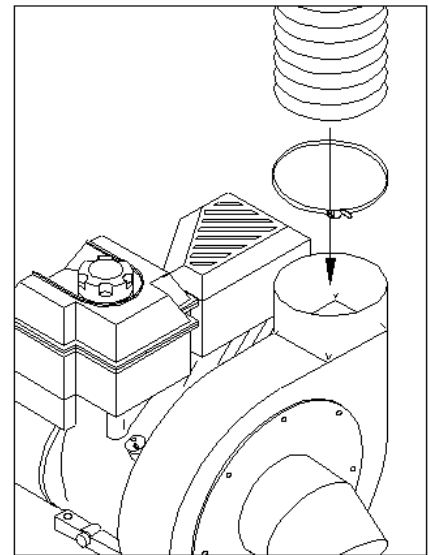

Fig. 14
14. Slip free end of 6 " x 28 " hose over turbine housing (3) neck and secure with 6 " band clamp. **Fig. 14**